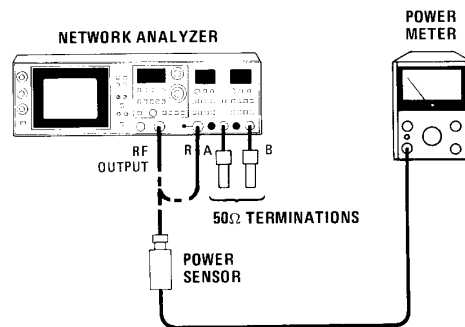

Figure 4-12. R-A and R-B Crosstalk Test Setup
Equipment listed is for two test setups, Figures 4-12 and 4-13.
4. Calibrate power meter and sensor. Connect power sensor to analyzer RF OUTPUT as shown in Figure 4-12 and adjust OUTPUT dBm for a meter indication of +10 dBm.
5. Disconnect power sensor from analyzer. Connect RF OUTPUT to the R INPUT port and terminate the A and B INPUT ports as shown in Figure 4-12.